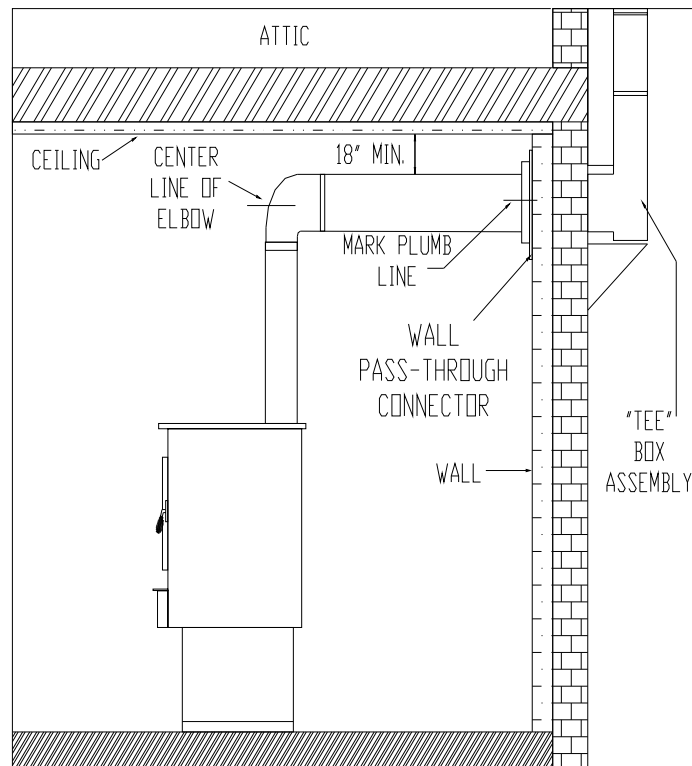

FIGURE 9
- Mark the plumb line on the wall directly behind the center of the heater. (See Figure 9)